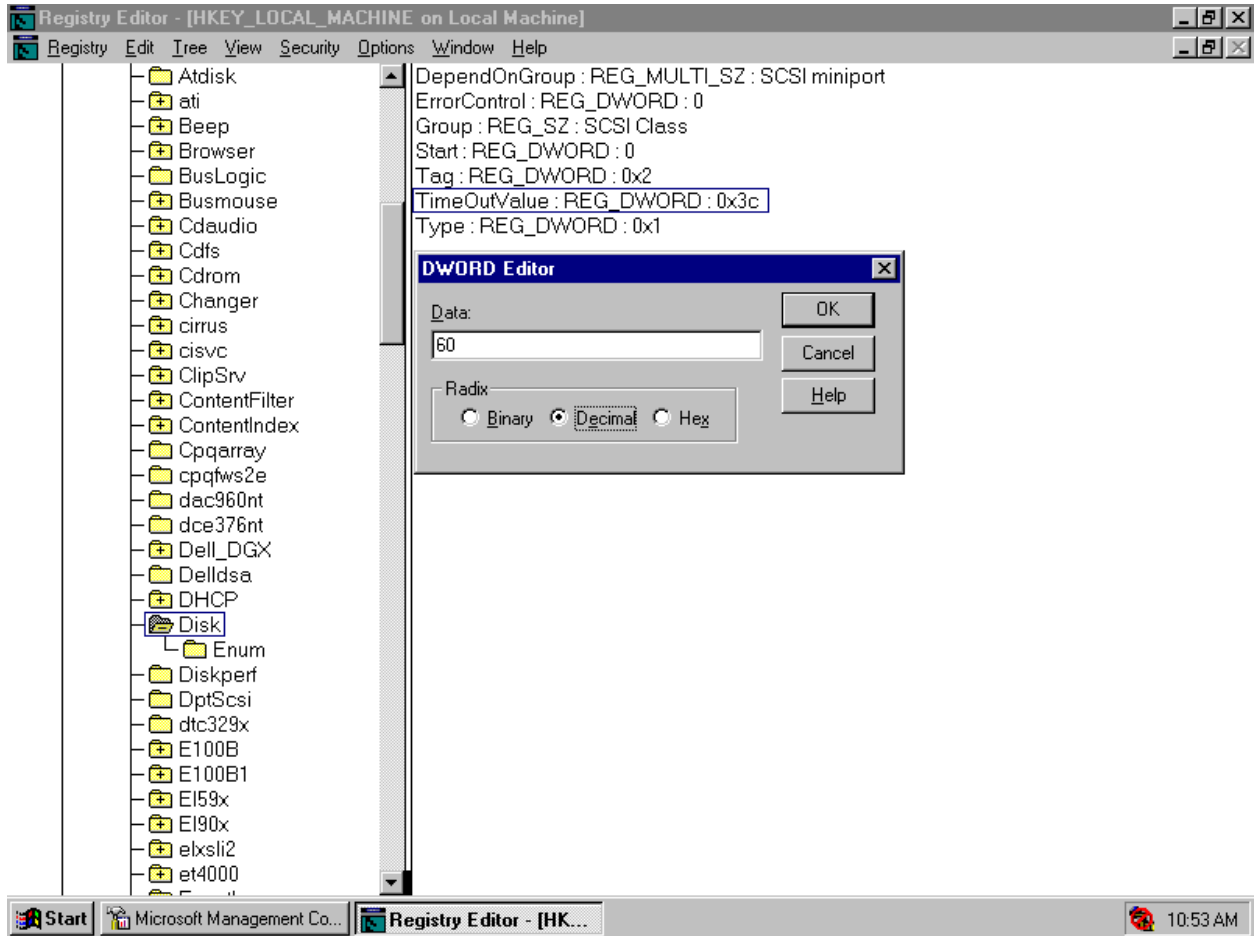

Figure 2.1 Verifying/Setting the Disk I/O TOV Using the Registry Editor
Verify the disk I/O TOV using the Registry Editor as follows (see Figure 2.1):
2. Display the disk parameters as follows: go to **HKEY\_LOCAL\_MACHINE** → **SYSTEM** → **CurrentControlSet** → **Services** → **Disk** (see Figure 2.1).